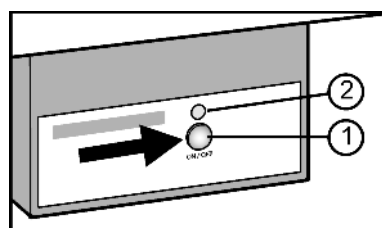

Fig. 17
- ▶ Press the On/Off button Fig. 17 (1) so that the LED Fig. 17 (2) shines.